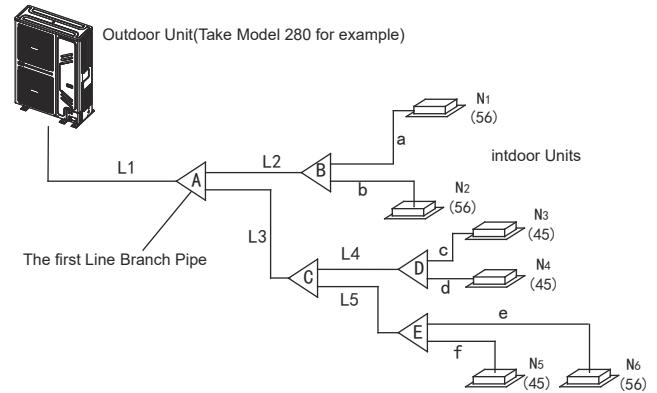

Fig. 4-5
- 2) Example 1: In the Fig.4-5, The downstream inner units of the L4, and its total capacity is  $45 \times 2 = 90$ . refers to the Table 4.4, the air/liquid side of L4 is:  $\Phi 15.9/\Phi 9.5$ .